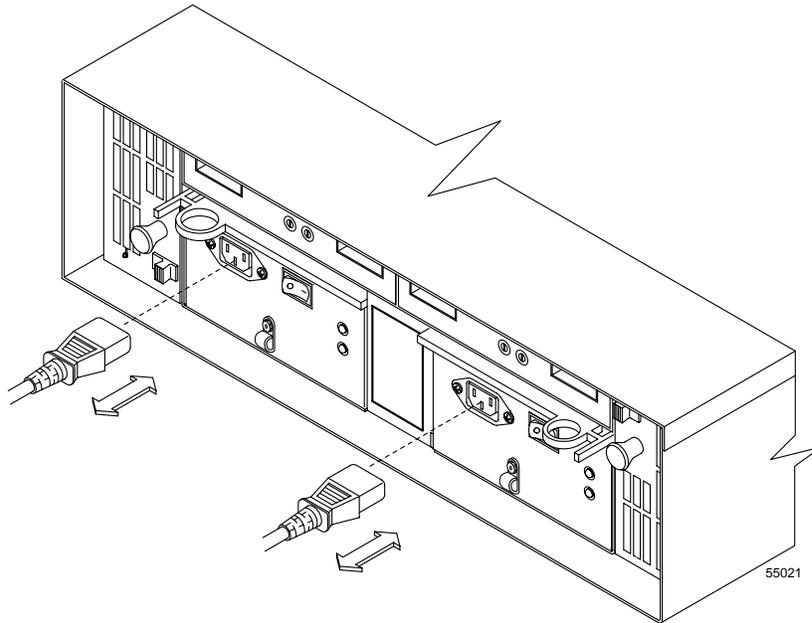

Figure 8-14 Connecting the Drive Enclosure Power Cords
5. Plug the drive enclosure power cords into each power supply in the drive enclosures (Figure 8-14).